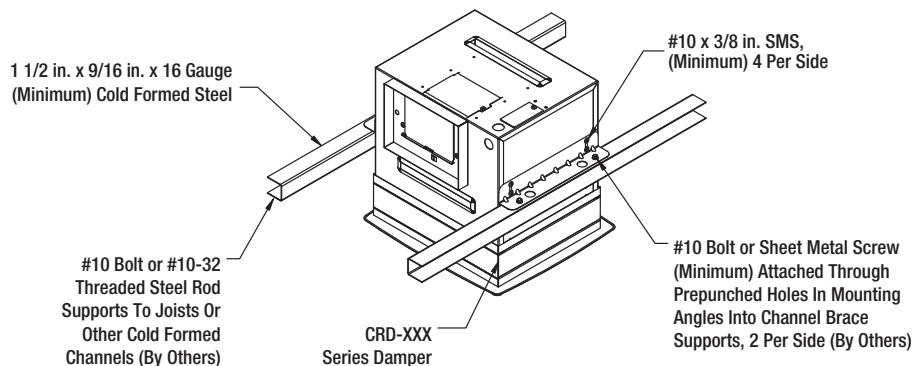

Figure 5
2. Support fan/damper assembly using (2) minimum 16 ga. x 1½ in. steel channels with ¼ in. flanges. Suspend from joists or cold rolled channels (do not suspend from beams). Alternatively, bolt channels ends directly to joists or other cold rolled channels using minimum #10 bolts. See **Figure 5**.